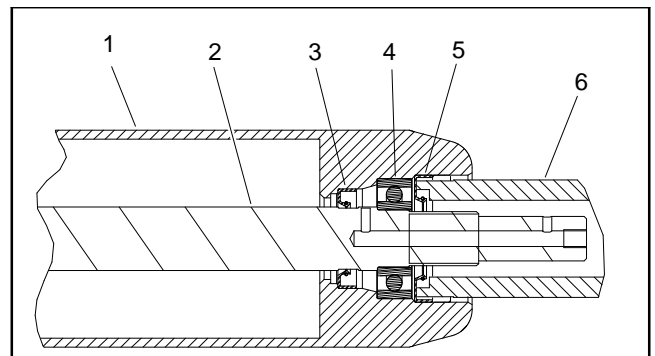

Figure 39
D. Carefully install first outer seal into roller tube making sure that seal lip (and garter spring) faces end of tube. Use bearing/outer seal tool (see Special Tools) and soft face hammer to lightly seat seal (Fig. 39). Make sure that shaft and bearings still freely rotate after seal installation.